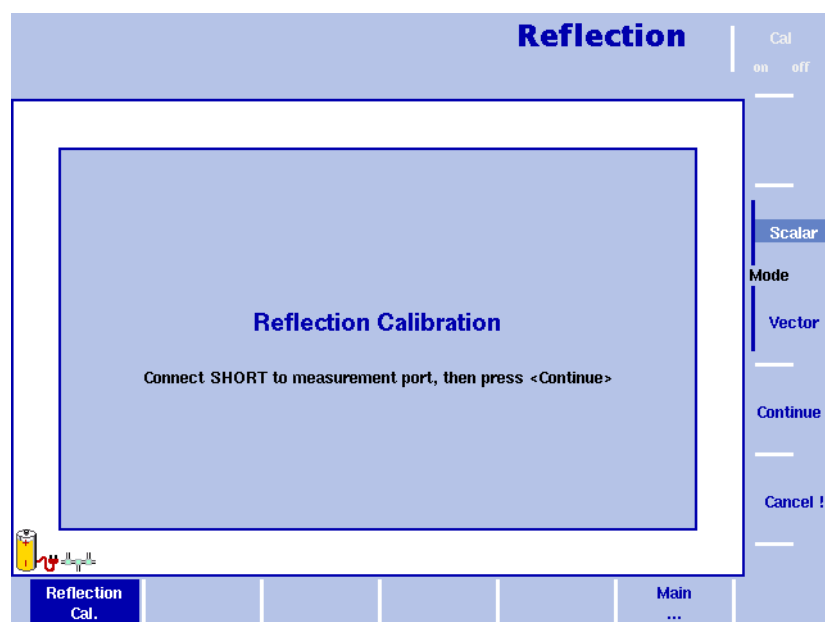

Figure 44 Reflection Calibration menu
- 3 In this menu you can select the mode to be used for your measurement by pressing the **Scalar** or **Vector** softkey. The scalar measurement measures the level of the reflected signal. The vector measurement is even more precise and also measures the phase of the reflected signal. It increases measurement accuracy as well as the return loss measurement range. The 9103 will guide you through the calibration process by onscreen messages as shown in Figure 44. When prompted as shown connect the calibration set to the test port extension cable and press **Continue**. You can abort the calibration process by pressing the **Cancel !** softkey.